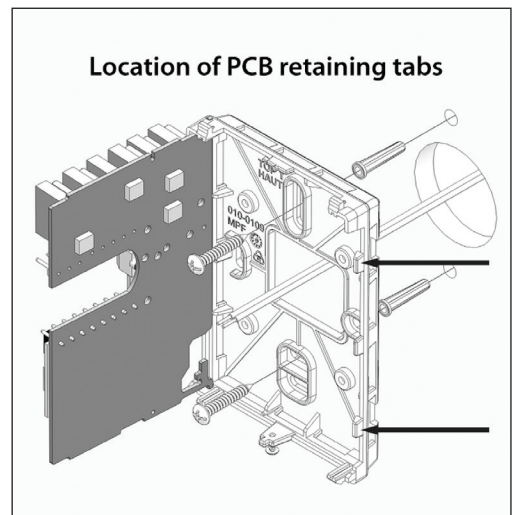

Figure-2 Opening the PCB
1. Swing open Room Controller PCB to the left by pressing two PCB retaining tabs (Figure-2).
6. Insert screws in mounting holes on each side of base (Figure-2).